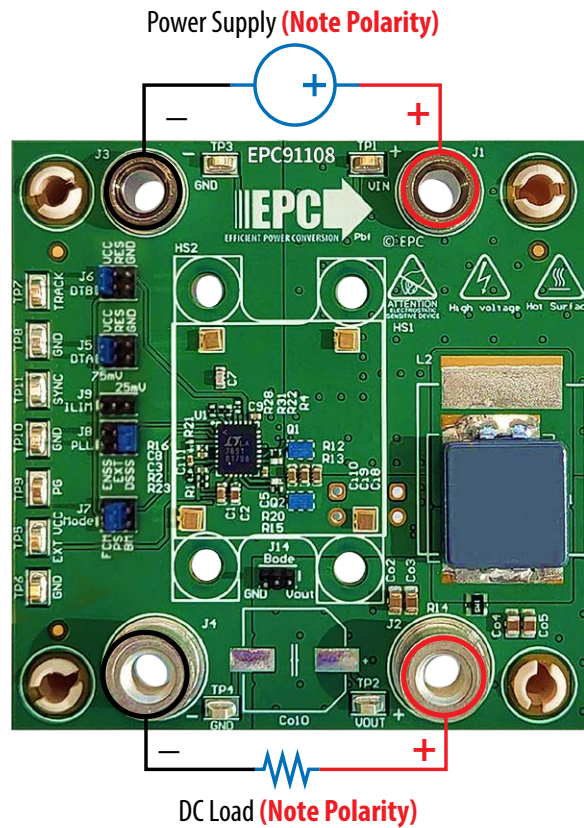

Figure 7: Power connections to the EPC91108 evaluation board.
To operate the EPC91108, connect the input supply and the load as shown in figure 7.
The EPC91108 evaluation board is easy to set up to evaluate the performance of the EPC2055 GaN FETs. Refer to figures 7, 8, 9, 10, 11 & 12 for proper connection and measurement setup and follow the procedure below to operate the board:
1. With power off, connect the input power supply between VIN (J1) and GND (J3). Pay careful attention to the polarity of the supply as shown in figure 7. A shunt can be inserted in series with the positive supply to measure the input current.
3. With power off, connect a suitable load between VOUT (J2) and GND (J4). Pay careful attention to the polarity as shown in figure 7.